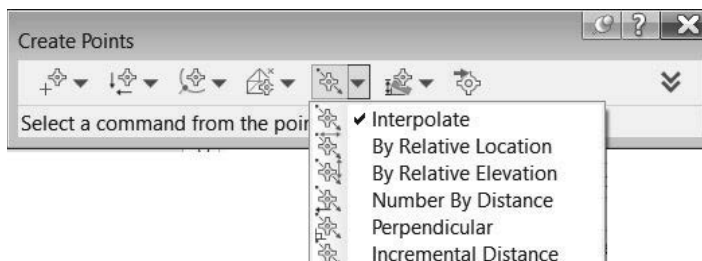

Figure 2–21
2. Click  (Import Points) to open the *Import Points* dialog box (shown in Figure 2–22).